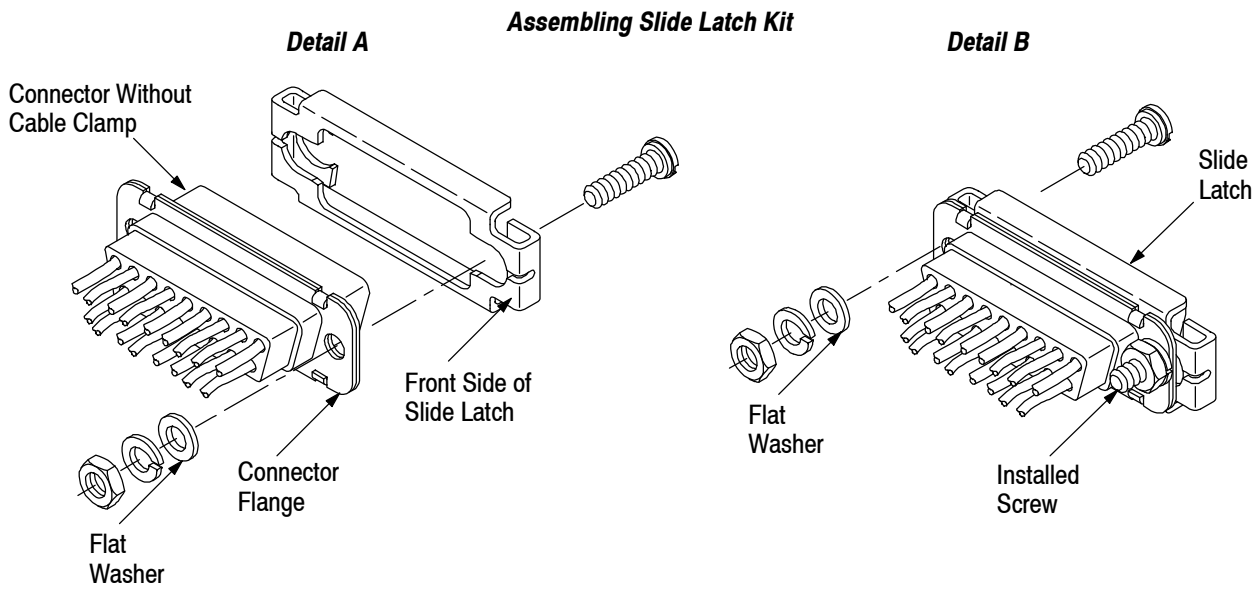

Figure 3
1. Secure one screw onto the connector flange with the flat washer (if supplied), lockwasher and hex nut. Tighten the screw to a torque between 0.11 and 0.22 N-m [1 and 2 in.-lb]. See Figure 3, Detail A.
2. Slide the front side of the slide latch over the installed screw to hold the slide latch in position. See Figure 3, Detail B.